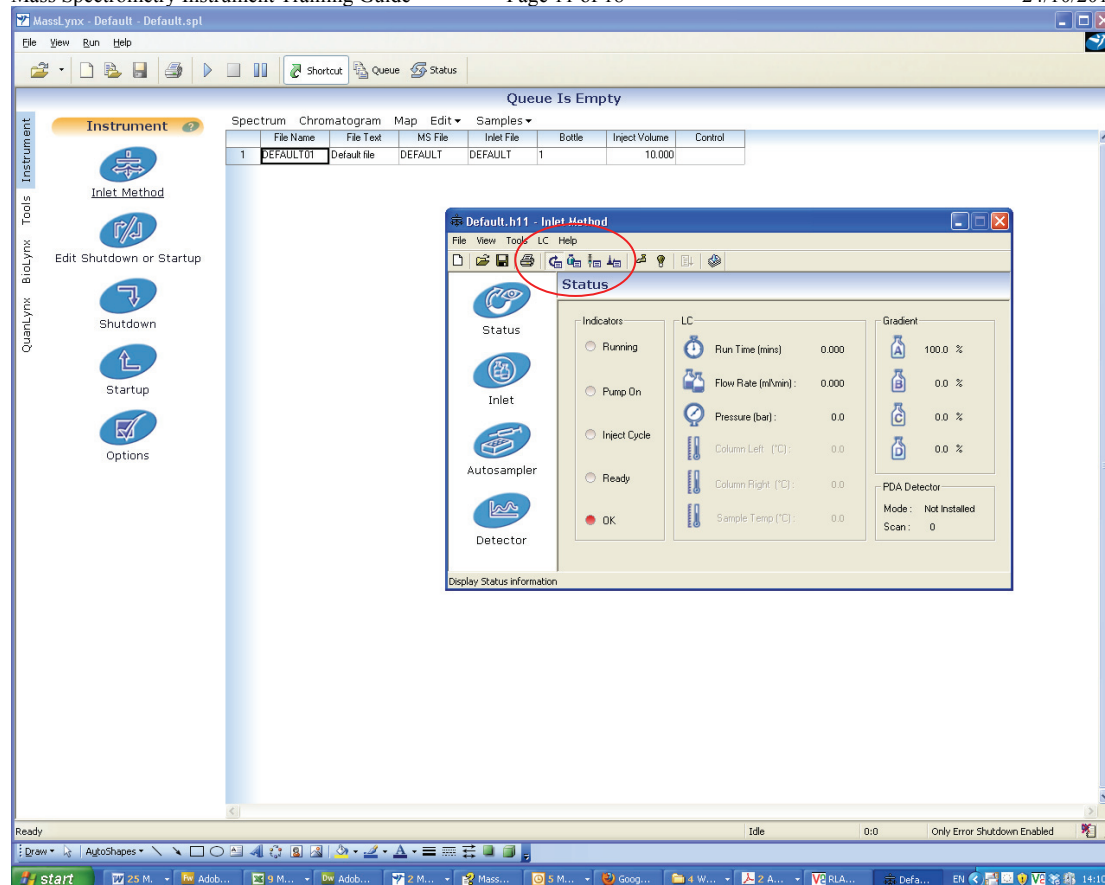

Figure 13: There are 4 important tabs circled in red.
- 3.5 Editing Inlet method: There are 4 important tabs (circled in red in Figure 13) The first is the 'display status' this provides information about the flow rate, which pumps are running, their pressures and any faults with the inlet. Note the 'ready' and 'OK' light should both be green during normal operation. A red light in either signifies a fault as for the 'OK' light in Figure 13.